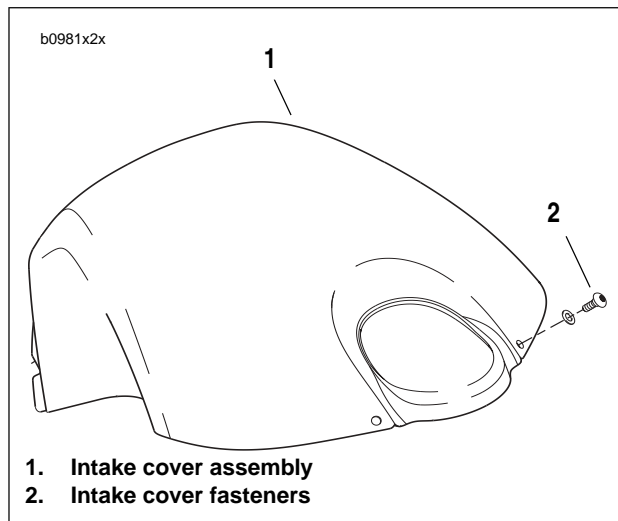

Figure 2-108. Intake Cover Assembly
2. See Figure 2-108. Remove fasteners and nylon washers (2).
3. Remove intake cover assembly (1).
2. See Figure 2-108. Secure intake cover assembly (1) with fasteners and nylon washers (2). Tighten to 12-36 **in-lbs** (1-4 Nm).